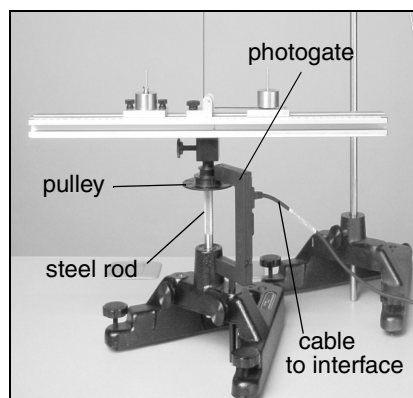

Figure 2: Photogate on Base of Centripetal Apparatus
2. Use a thumbscrew to mount a Photogate Head (ME-9498A) to the bottom of the "A" base (See Figure 2). Let the Photogate Head rest over the first ring on the 3-step pulley of the Rotating Platform. (**Note:** Ensure that the positioning of the photogate does not restrict movement of the shaft).